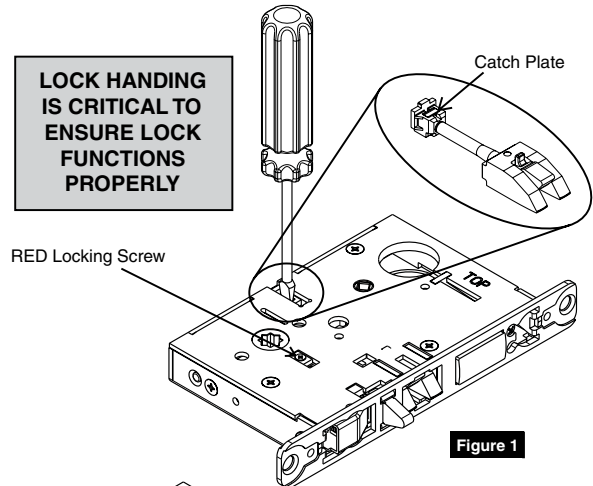

Figure 1
2. Push in latch. Depress catch plate with screwdriver. (Figure 1)